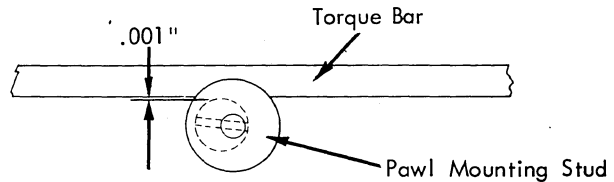

FIGURE 102. Pawl Mounting Stud Adjustment
- 3. Pawl Mounting Stud - Rotate the pawl mounting stud so that it clears the escapement torque bar by .001" at the closest point along the writing line (Fig. 102) Keep the high part of the eccentric toward the left so that the force of the torque bar will tend to tighten the stud instead of loosen it.